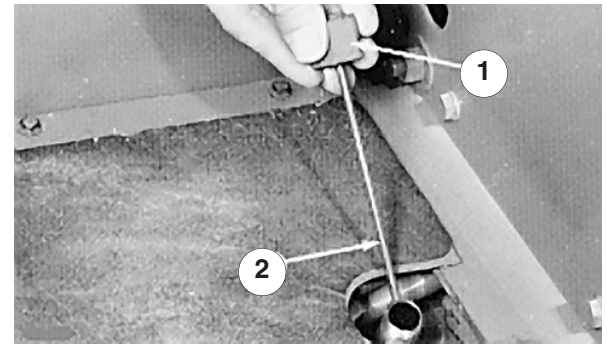

Figure 7
2. Unscrew the dipstick cap (Fig. 7) from the filler neck and wipe it with a clean cloth. Screw the dipstick cap finger-tight onto the filler neck, then unscrew the dipstick and check the oil level. If the level is not within $\frac{1}{2}$ in. (13 mm) from the groove in the dipstick (Fig. 7), add enough oil to raise the level to the groove mark. Do not overfill by more than $\frac{1}{2}$ in. (13 mm) above the groove.